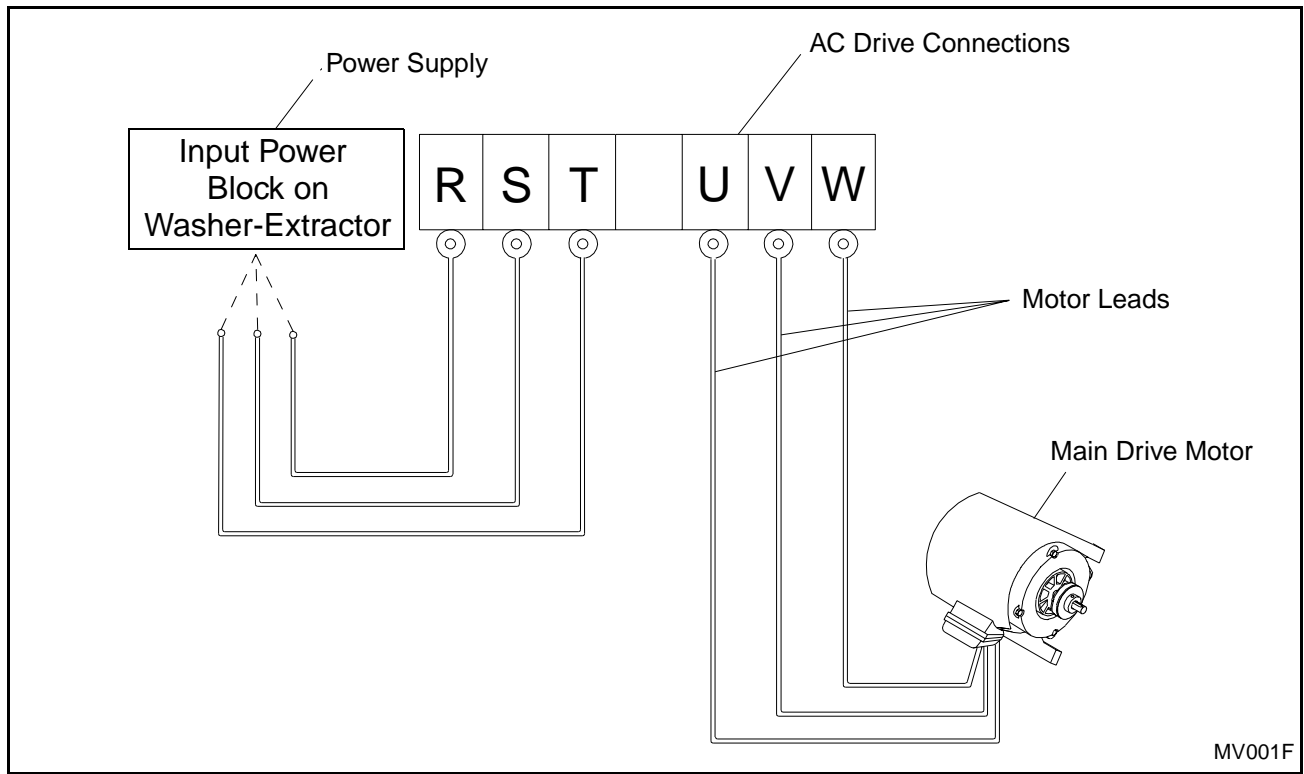

Figure 27
8. Cylinder rotation must be clockwise in a spin step for 35-pound, 50-pound, and 85-pound capacity models. On 135-pound and 250-pound models, rotation should be counterclockwise in an extract step. If rotation is not correct, disconnect power. A qualified electrician must reverse any two leads between the AC drive and the main drive motor. See Figure 27.